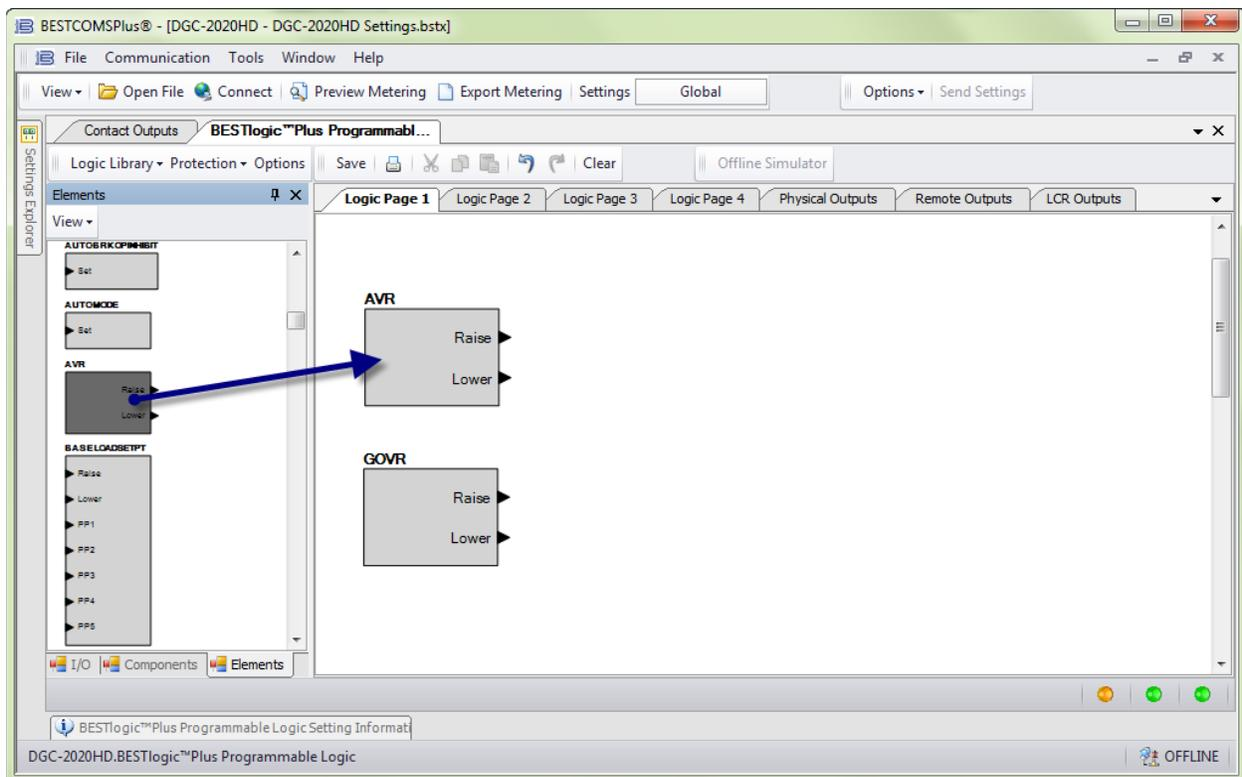

Figure 14-18. Contact Output Bias Control Setup, Step 3.
- In BESTlogicPlus Programmable Logic, click on the Elements tab and drag the AVR and GOVR elements into the main logic screen. See Figure 14-18.